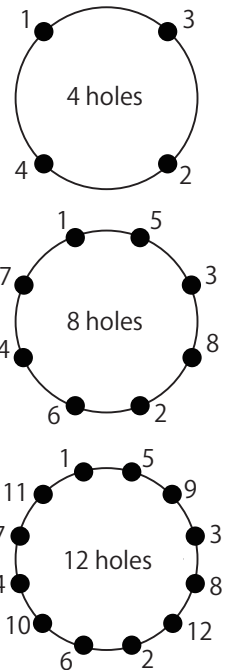

Figure 3 Tightening order
(4) Prepare a new bolt without adhesion of oil and fat. Tighten the bolt according to the order described in Figure 3 increasing the tightening by 10 to 12 N·m increments, to finally make the torque specified in Table 2 or Table 3 with respect to the flange specification.